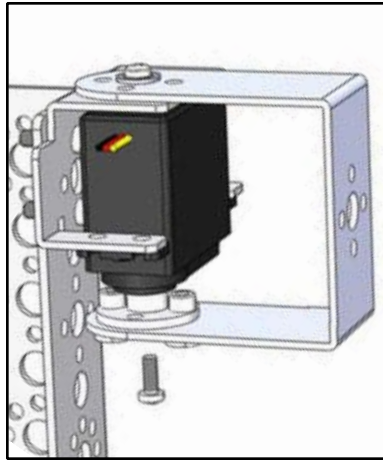

Figure D11
- 7) Place the servos into the brackets with the servo motor shafts facing toward the servo horn on the bracket. Secure each servo to the motor bracket with 3/8" BHCs. With the servos still connected to the powered R/C system, attach the pivot brackets to each servo where you want them – you will have to stretch the end with the horn over the servo (Figure D11). Power down the R/C and detach the Y connector from it. Secure the servo to the horn with the servo screw.